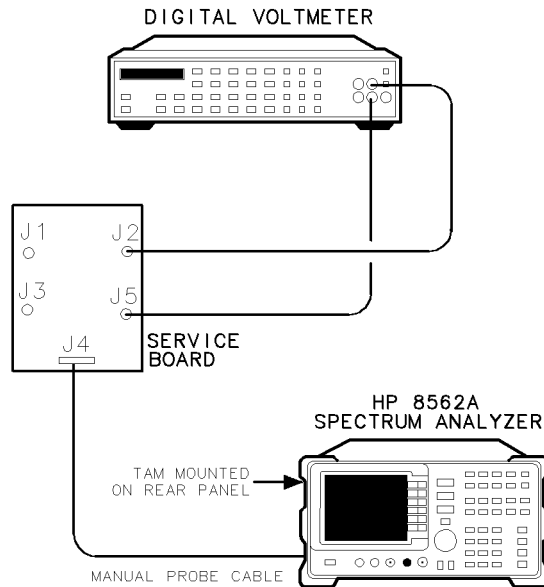
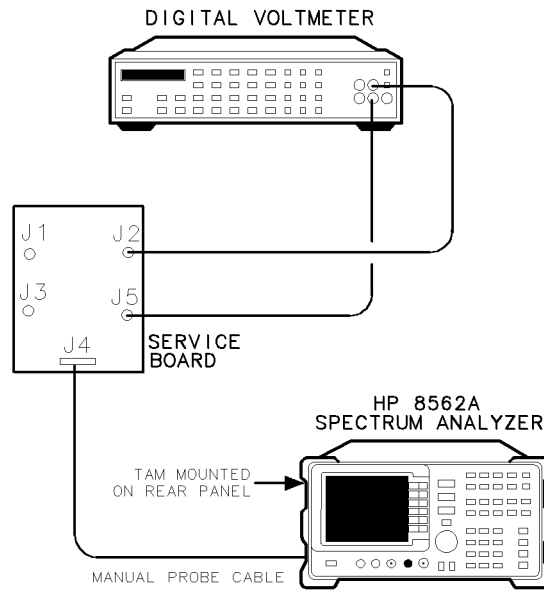

Figure 4-2. DAC Accuracy Performance Test Setup
Figure 5-1. TAM Calibration Test Setup
1. Connect the equipment as shown in Figure 4-2. Set switch SW1 to the OS1 position. (DVM reads voltage on output signal line.)
1. Connect the equipment as shown in Figure 5-1. (The setup is the same as for the “DAC Accuracy Performance Test.” See Figure 4-2.) Set the switch SW1 to the OS1 position. (DVM reads voltage on output signal line.)